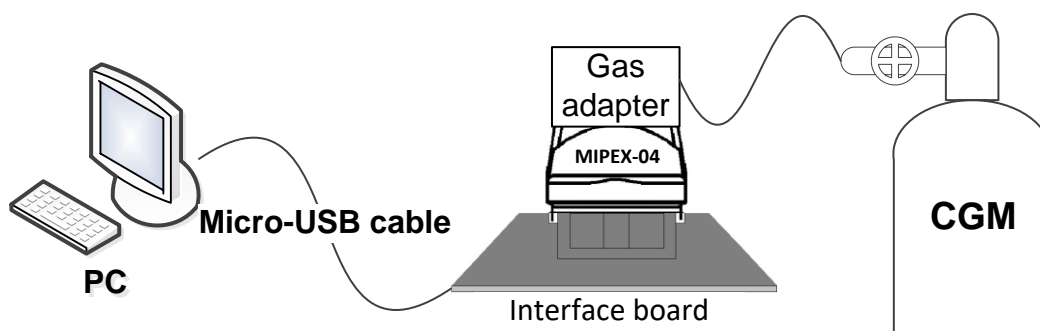

Fig. 10. Typical scheme of MIPEX-04 span calibration
1. Communicate sensor via UART interface (example based on MIPEX-04 interface board ESAT.200100.00 is shown on Fig. 10; gas adapter ESAT.200105.00 is available as an option).